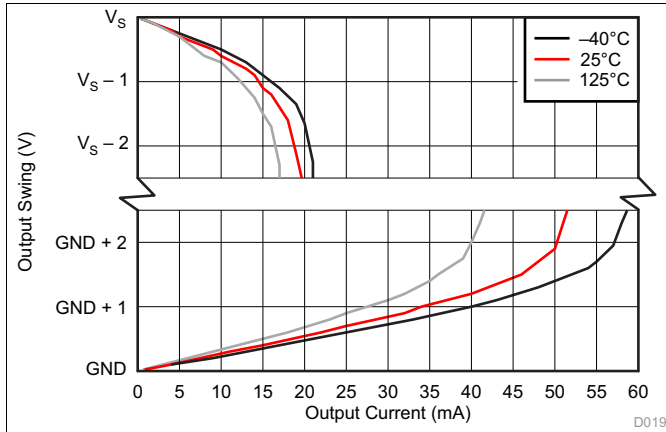

Figure 19. Output Voltage Swing vs Output Current
(1) RTI = referred-to-input.
(2) See Typical Characteristic curve, *Output Voltage Swing vs Output Current* (Figure 19).